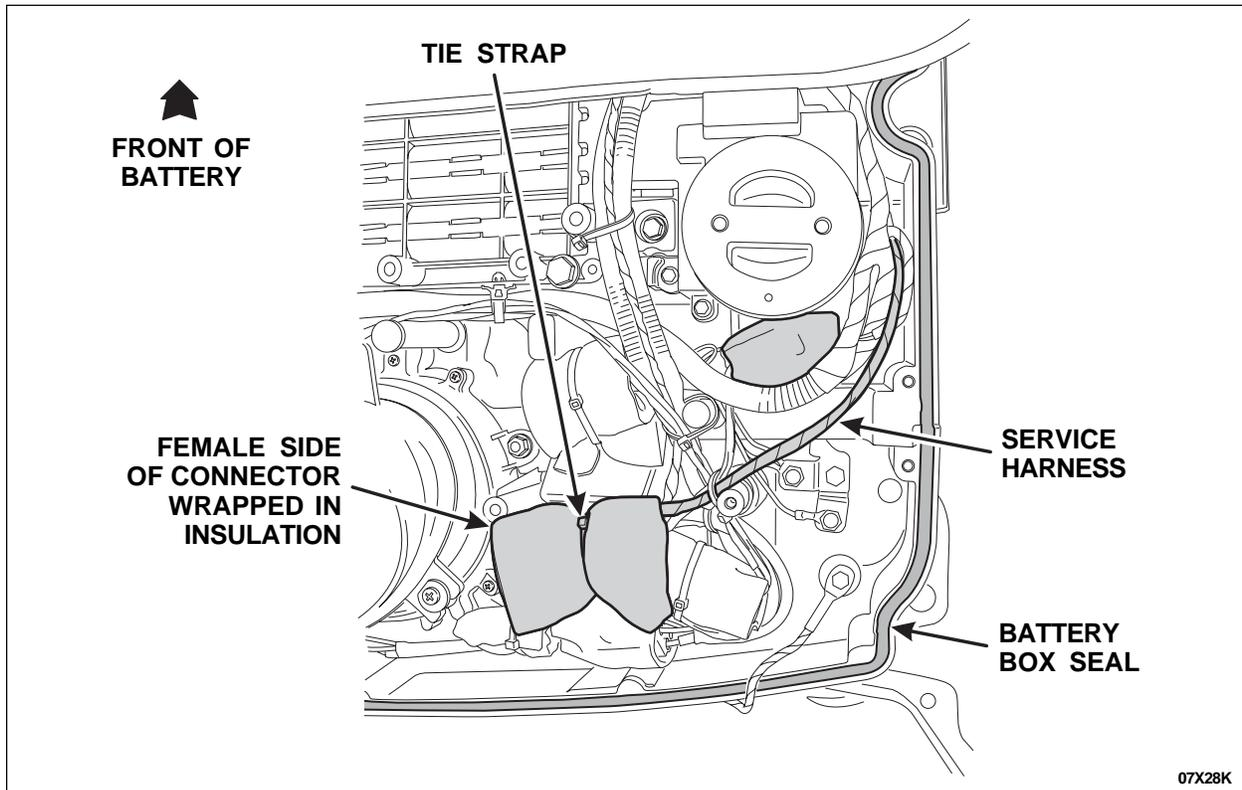

FIGURE 11
14. Wrap the female side of the original connector and service harness together with the provided thicker insulation. Attach the tie strap provided around the insulation. Make sure that the connector is completely covered. See Figure 11.